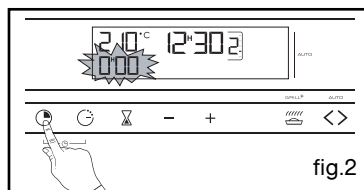

fig.2
Set the time by pressing the + or - buttons (continued pressure on the button runs through the numbers quickly) (fig.2).
Press buttons “” and  at the same time for a few seconds (fig.2), then release them when the time of day begins to flash. The sound of beeping shows that you can set it now.
Example: position (fig.2).
The display flashes 0:00 to tell you that you can now set it (fig.2).
Example: end cooking at 1:10 pm (fig.2).
– Rotate the function selector to the “” POSITION. The “ECO” indicator comes on on the display (fig.2).